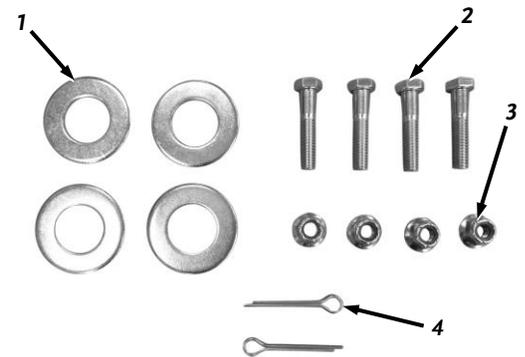

Figure 6
**Wheels Hardware Set (Figure 6):**
(Use Wheels Hardware Set, see Figure 6)